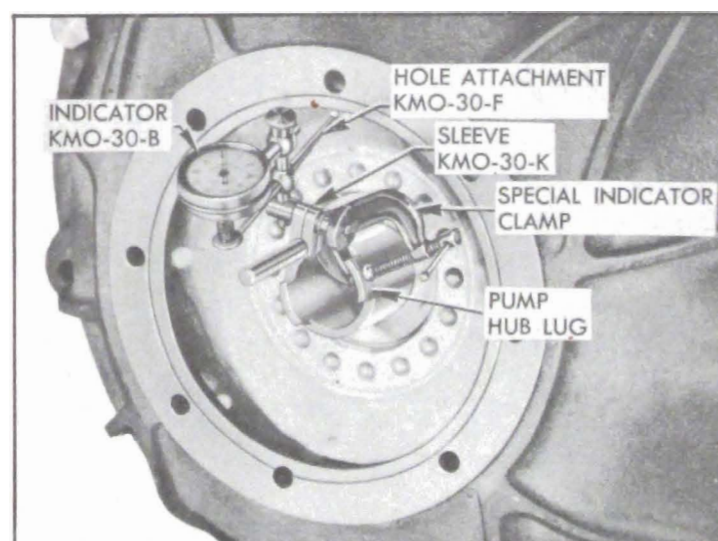

Figure 4-25—Checking Run-Out of Bell Housing Pilot Hole
10. Mount dial indicator and Hole Attachment KMO-30-F to bear against inner edge of pilot hole in bell housing. See figure 4-25. Run-out of pilot hole should not exceed .004".
12. Set up dial indicator as shown in figure 4-25 and bring pilot hole of bell housing within .004" run-out by tapping in required direction with lead hammer. If it is not possible to move housing far enough, remove housing and drill bolt holes with 1/2" drill.